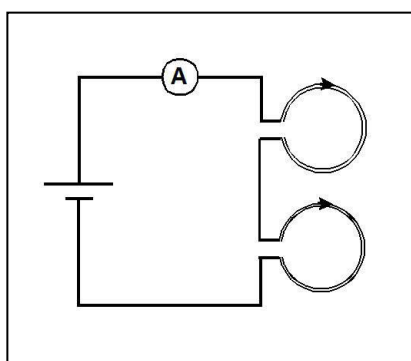

Figure 7: Helmholtz Wiring
- Connect the second coils in series with the first coil, as shown in Figure 7. Make sure that the direction of the current in the wiring is taken care of correctly. This ensures that the magnetic field produced in both coils is in the same direction.